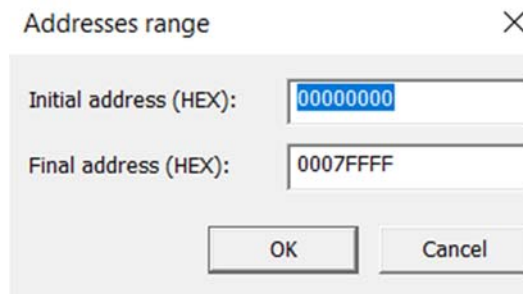

Figure 19 - Address Range
7.2 To read a binary copy, in the main screen «SOMExplorer», shown in Figure 5, click the  button and select the address range shown in Figure 19.